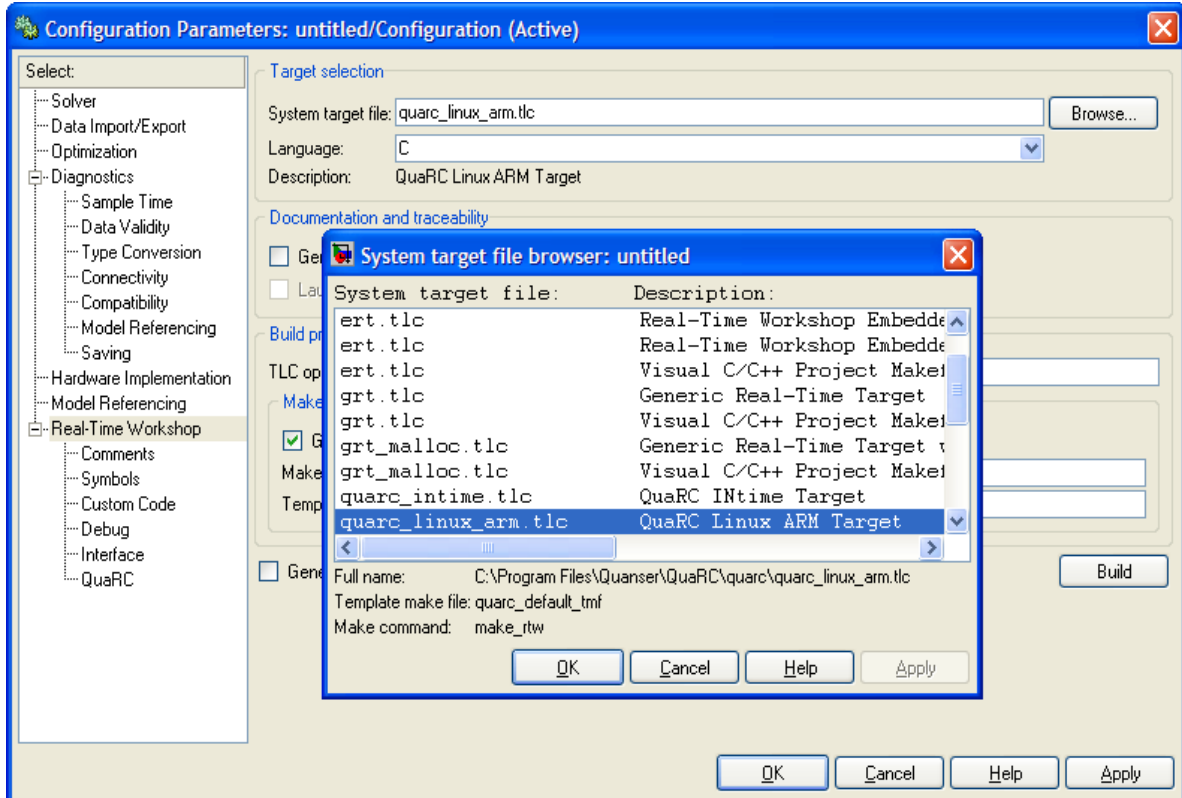

Figure 26 QUARC Option Menu.
3. The System target file under Code Generation should be `quarc_linux_verdex.tlc`. Browse through the system target list to locate the proper file if necessary (Figure 26).